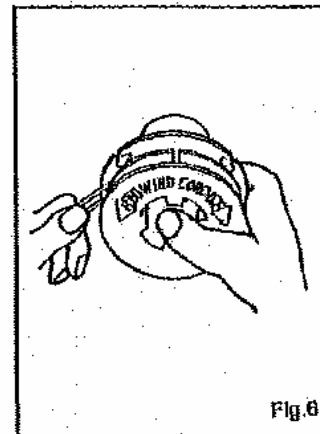

Fig.6
5. Wind the cord following the arrows on the back of the spool (fig.6), LH for straight shaft brushcutter or RH for bent shaft trimmer.
6. Wind the cord firmly, one half in each gutter, winding both halves in the same direction. (fig.6)